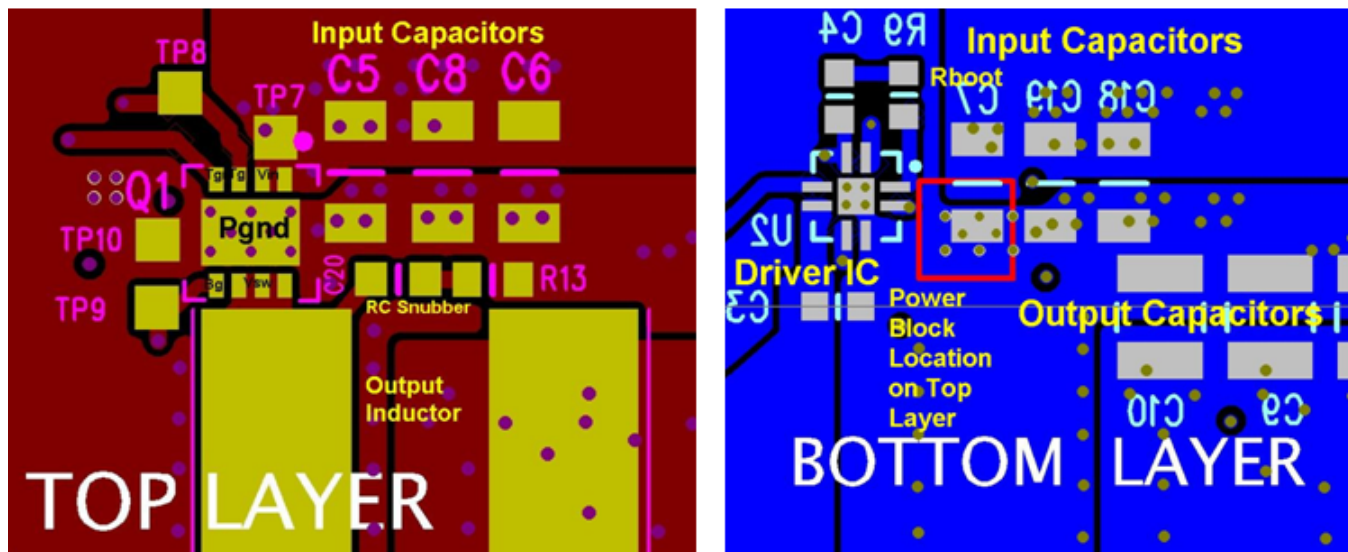

Figure 21. Recommended PCB Layout (Top Down)
- The placement of the input capacitors relative to the power block's VIN and PGND pins should have the highest priority during the component placement routine. It is critical to minimize these node lengths. As such, ceramic input capacitors need to be placed as close as possible to the VIN and PGND pins (see Figure 21). The example in Figure 21 uses 6 × 10-μF ceramic capacitors (TDK part number C3216X5R1C106KT or equivalent). Notice there are ceramic capacitors on both sides of the board with an appropriate amount of vias interconnecting both layers. In terms of priority of placement next to the power block, C5, C7, C19, and C8 should follow in order.
- The switching node of the output inductor should be placed relatively close to the power block VSW pins. Minimizing the node length between these two components will reduce the PCB conduction losses and actually reduce the switching noise level.(1) In the event the switch node waveform exhibits ringing that reaches undesirable levels, the use of a boost resistor or RC snubber can be an effective way to easily reduce the peak ring level. The recommended boost resistor value will range between 1 Ω to 4.7 Ω depending on the output characteristics of driver IC used in conjunction with the power block. The RC snubber values can range from 0.5 Ω to 2.2 Ω for the R and 330 pF to 2200 pF for the C. Please refer to Snubber Circuits: Theory, Design and Application (SLUP100) for more details on how to properly tune the RC snubber values. The RC snubber should be placed as close as possible to the Vsw node and PGND (see Figure 21).(1)
- (1) Keong W. Kam, David Pommerenke, "EMI Analysis Methods for Synchronous Buck Converter EMI Root Cause Analysis", University of Missouri – Rolla
- Use the smallest drill size allowed in your design. The example in Figure 21 uses vias with a 10-mil drill hole and a 16-mil capture pad.